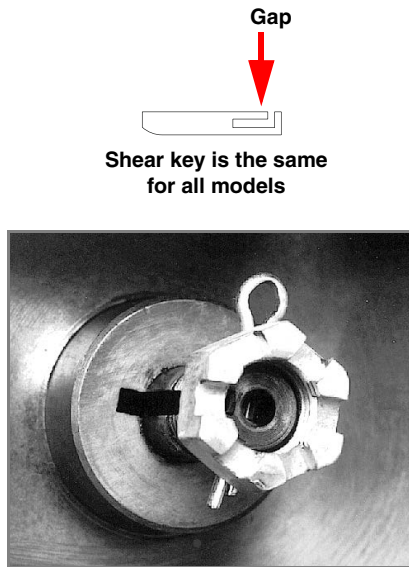

Figure 9-11 Shear key replacement
2. Rotate the ball screw until the broken halves of shear key are realigned (Figure 9-11).
4. Insert the new shear key into the slot with the gap facing away from the shaft, as shown in Figure 9-11. Push the shear key about half-way into the worm gear. Do not push it all the way in.
2. Insert the cotter pin into the ball screw, and screw the castle nut onto ball screw, with the slot on castle nut outward, as shown in Figure 9-11.
3. Use a 3/4" wrench on the castle nut and rotate the ball screw clockwise until the broken halves of the shear key are realigned (Figure 9-11).
6. Insert the new shear key into the slot with the gap facing away from the shaft, as shown in Figure 9-11. Push the shear key approximately half way into the worm gear. Do not push it all the way in.